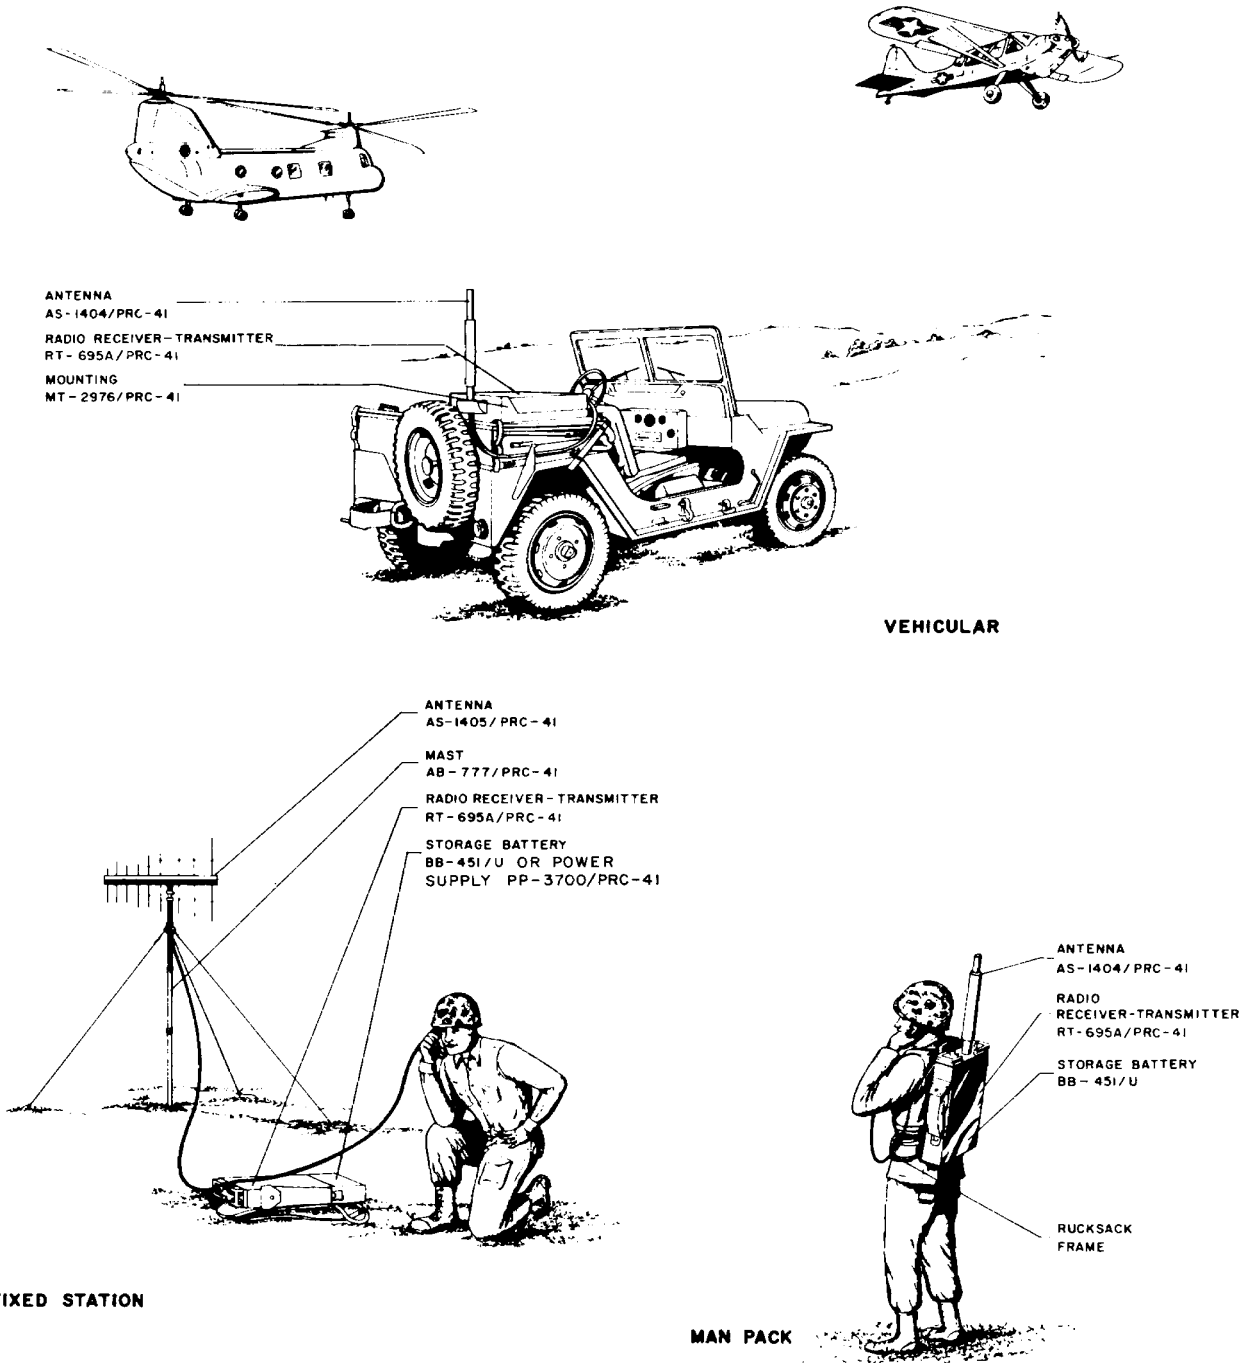
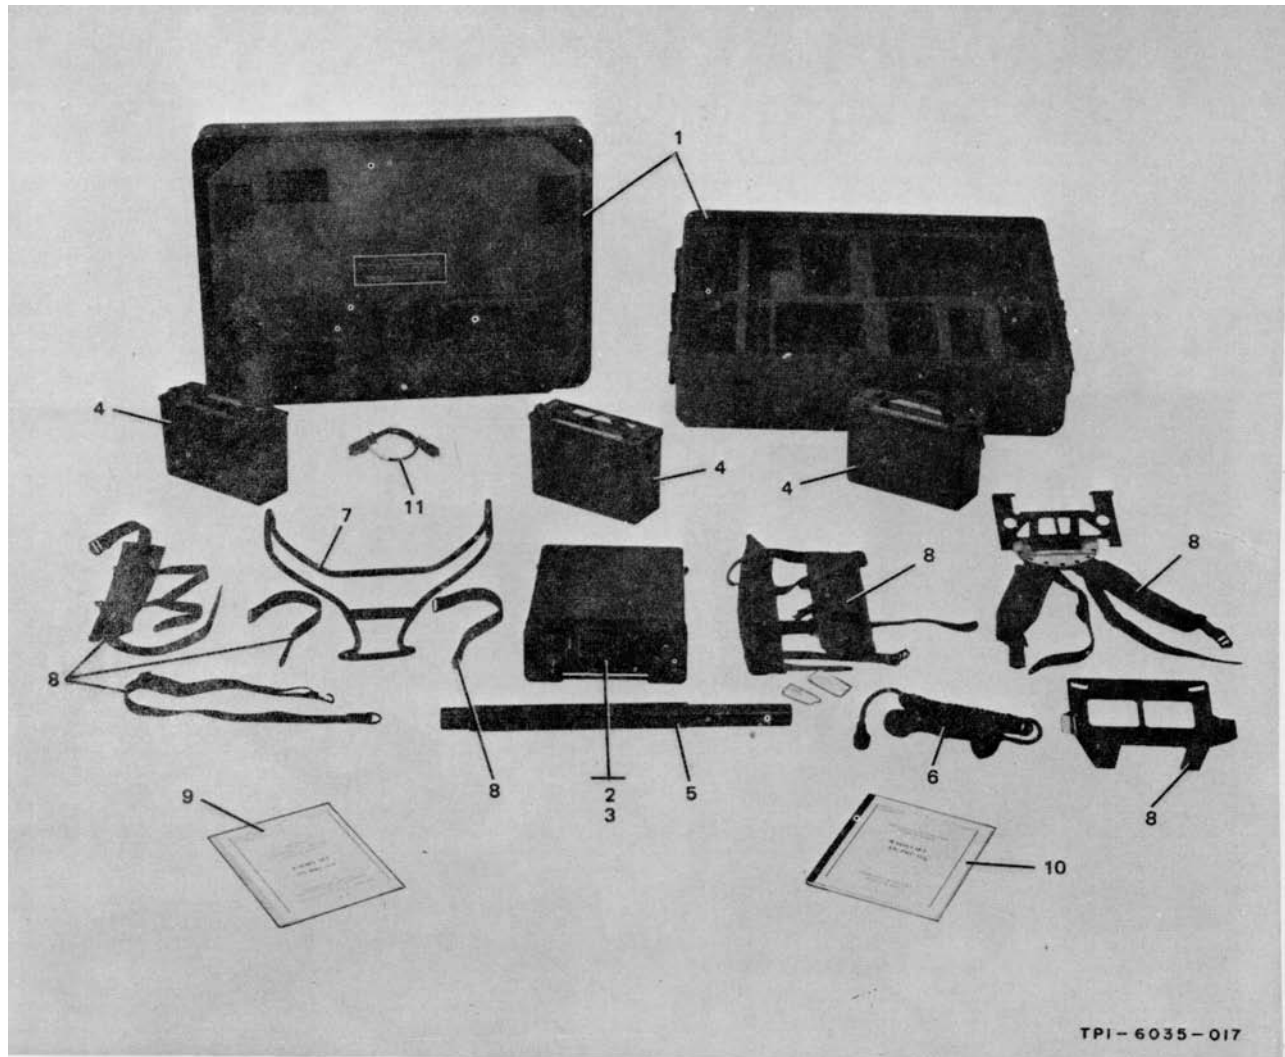
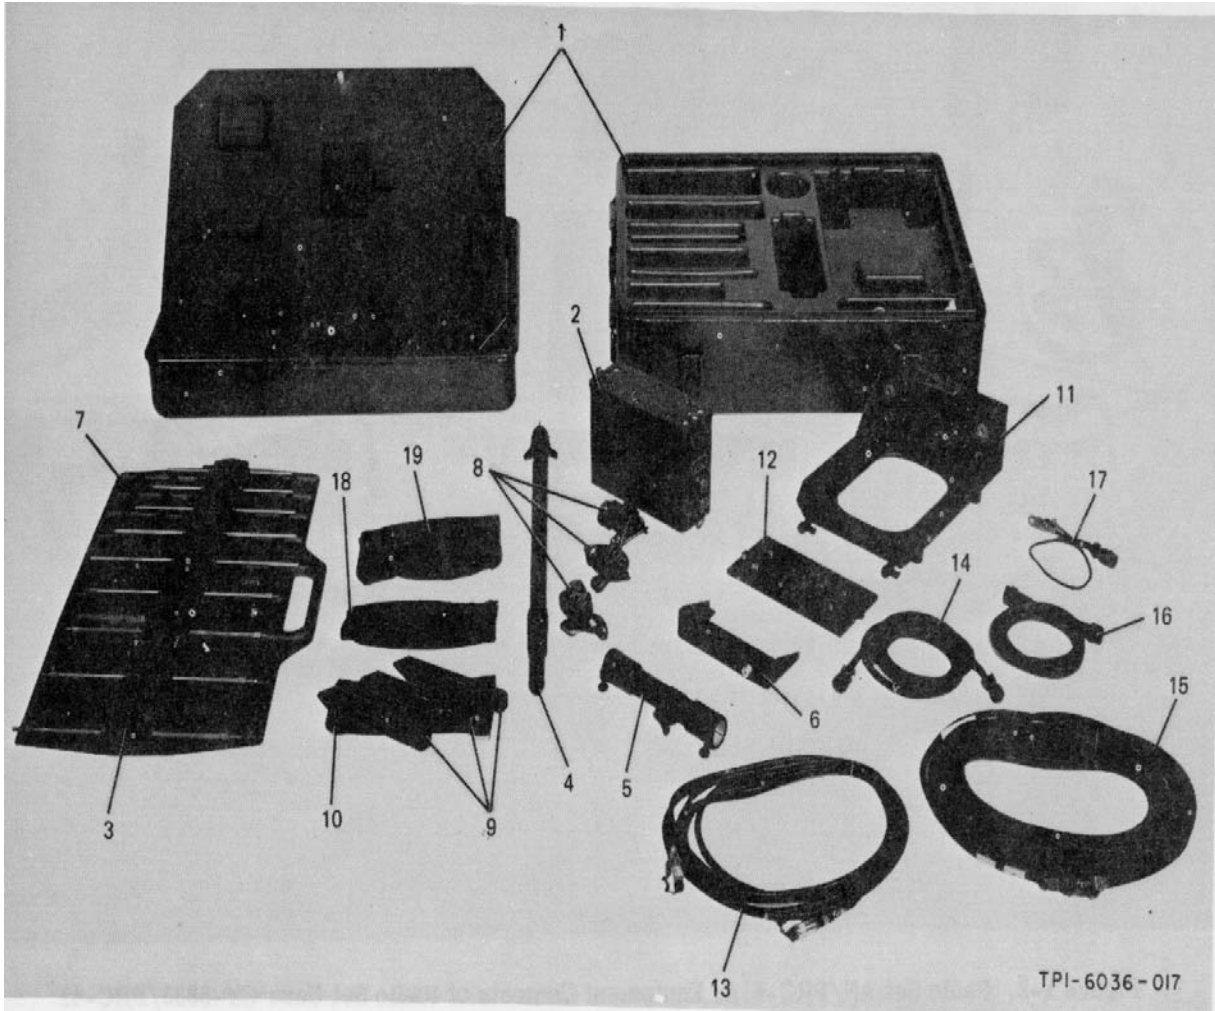

Figure 1-1. Radio Set AN/PRC-41A, Operating Configuration
Figure 1-2. Radio Set AN/PRC-41A, Equipment Contents of Radio Set Case CY-3883/PRC-41
Figure 1-3. Radio Set Accessory Kit MK-706/PRC-41, Accessory Contents of Electronic Equipment Case CY-3885/PRC-41
Radio Set AN/PRC-41A consists of the equipment contained in Radio Set Case CY-3883/PRC-41. Refer to table 1-1 and figure 1-2. Radio Set Accessory Kit MK-706/PRC-41 consists of the equipment contained in Electronic Equipment Case CY-3885/PRC-41. Refer to table 1-2 and figures 1-1 and 1-3.
Radio Set AN/PRC-41A is a lightweight, portable uhf receiver-transmitter equipment. The versatility of this equipment permits man-pack, fixed station, or vehicular operation. See figure 1-1. The items and accessories of AN/PRC-41A and Accessory Kit MK-706/PRC-41A are listed in tables 1-1 and 1-2. This equipment is stored for transit in Radio Set Case CY-3883/PRC-41 and Electronic Equipment Case CY-3885/PRC-41. See figures 1-2 and 1-3. CY-3883/PRC-41 contains the items necessary for man-pack operation. CY-3885/PRC-41 contains the accessory items required for fixed station or vehicular operation, and maintenance items such as tools and extension cables. Radio Receiver-Transmitter RT-695A/PRC-41 of AN/PRC-41A may be operated on any one of 1750 channels, spaced 100kHz in the 225.0-to 399.9-MHz range. In transmit operation, the equipment uses type a3 (AM voice) emission and provides an average of at least 3 watts of power across the frequency range. All controls are an integral part of the front panel of RT-695A/PRC-41. These controls provide frequency selection, application of power, and adjustment of volume and squelch levels. Automatic relay operation in normal voice mode may be provided when two RT-695A/PRC-41 equipments are operated together. Cabling is provided for all modes of operational installations. RT-695A/PRC-41 has the capability of secure voice operation when used in conjunction with TSEC/KY-38 equipment. Primary power may be provided by either Storage Battery BB-451/U, Power Supply PP -3700/PRC -41, or vehicular battery supply. The equipment may use Antenna AS-1405/PRC-41 (directional) or Antenna AS-1404/ PRC-41 (omnidirectional).
a. GENERAL. - Radio Set AN/PRC-41A consists of Radio Set Case CY-3883/PRC-41 and its contents. Refer to figure 1-2. Radio Set Accessory Kit MK-706/PRC -41 consists of Electronic Equipment Case CY-3885/PRC-41 and its contents. Refer to figure 1-3. The following paragraphs provide physical, electrical, and functional descriptions of the case and contents of Radio Set Case CY-3885/PRC-41 and Electronic Equipment Case CY-3885/PRC-41.
(1) RADIO SET CASE CY-3883/PRC-41. Radio Set Case CY-3883/PRC-41 is an aluminum transit case with a foam rubber compartmentalized insert used for storage of the items of AN/PRC-41A
that are required for man-pack operation. It measures 15-1/2 by 35 by 26-1/2 inches and weighs 45 pounds. Refer to figure 1-2.
(8) SPECIAL PURPOSE ELECTRICAL CABLE ASSEMBLY CX-10831/PRC-41A. (Refer to figure 1-3.) - The CX-10831/PRC-41A is a 2-foot length of 7-conductor cable with suitable mating connectors. It is used to connect RT-695A/PRC-41 to the TSEC/ KY-38 security equipment.
Case CY-3885/PRC-41 is a compartmentalized aluminum transit case used for storage of accessories of Radio Set AN/PRC-41A. The contents of CY-3885/PRC-41 permit operation of the AN/PRC-41A equipment in a fixed station or vehicular configuration, and provide extension cables and tools required for equipment maintenance. The case measures 15-1/2 by 35 by 26 1/2 inches and weighs 45 pounds. Refer to figure 1-3.